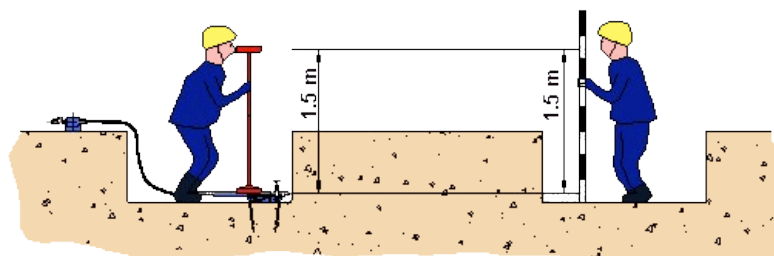

Figure 54 - Sighting the impact mole equipment
8. This mark is the height of the scope plus 100mm (the 100 mm allows for the height of the cradle from the bottom of the excavation). Refer to Figure 54.